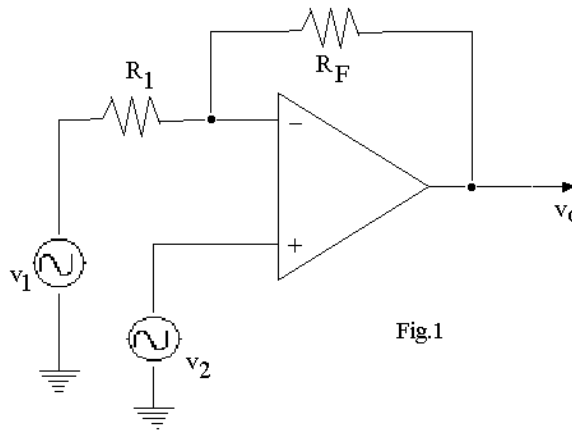

Fig.1
- Q.82** For the circuit shown in Fig.1, the output voltage is given by